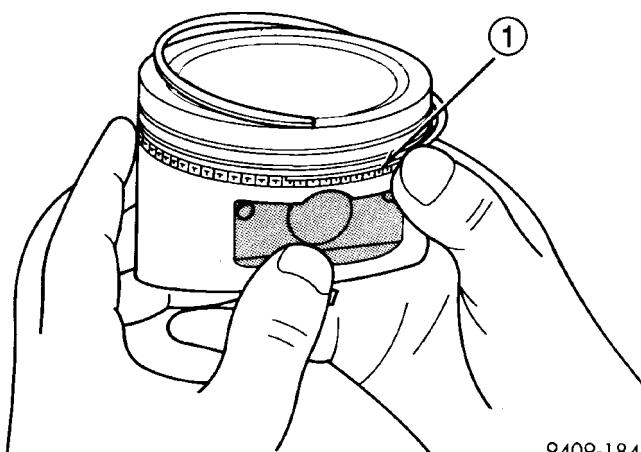

Fig. 73 Installing Side Rail
(2) Install upper side rail first and then the lower side rail. Install the side rails by placing one end between the piston ring groove and the oil ring expander. Hold end firmly and press down the portion to be installed until side rail is in position. **Do not use a piston ring expander (Fig. 73).**